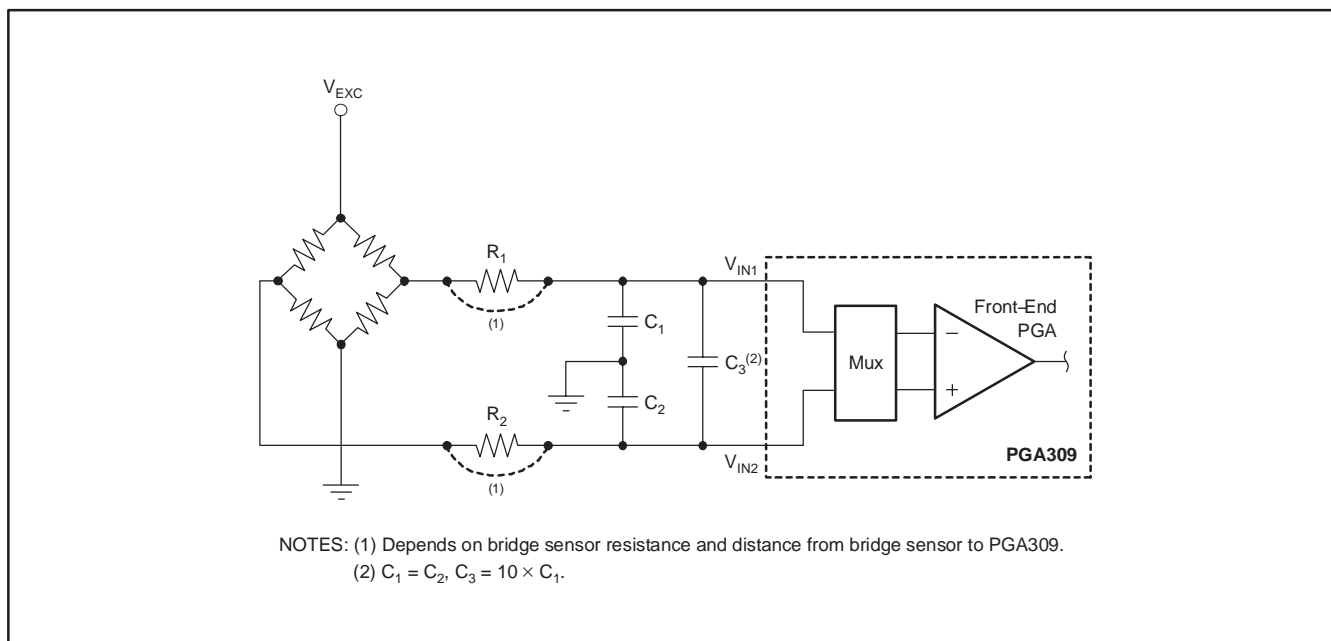

Figure 40. Input Filtering
7. V_{IN1} , pin 4 and V_{IN2} , pin 5: RFI filtering is always a concern for instrumentation amplifier applications. RFI signals injected into instrumentation amplifiers become rectified and appear on the output as a DC drift or offset; high-gain circuits amplify this effect. Figure 40 depicts input filtering for the PGA309. Depending upon the distance of the bridge sensor from the PGA309 and the sensor module shielding, R_1 and R_2 may be required. C_1 should be equal to C_2 , and C_3 should be ten times larger than C_1 to attenuate any common-mode signals that become differential due to the mismatch in C_1 and C_2 . All input filter components should be located directly at the PGA309 inputs to avoid and trace lengths from becoming receiving RFI antennas.